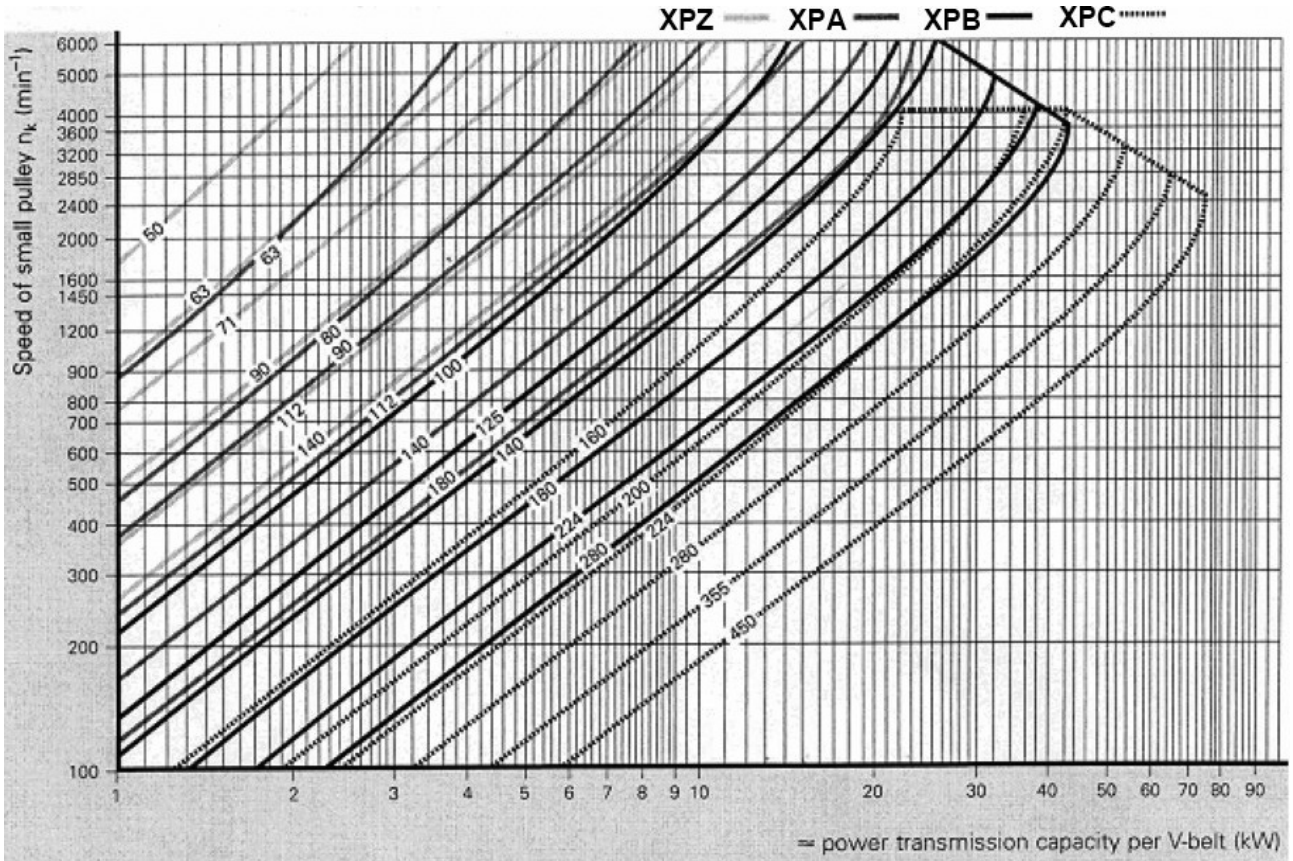
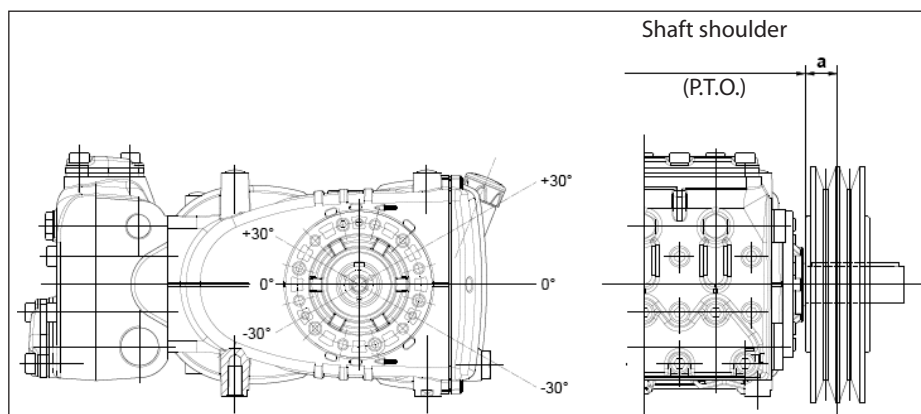

Fig. 7
Fig. 10
For this pump model, we recommend use of 2 XPB belts (16.5x13 serrated). Use an XPC profile only for long durations. Both the characteristics and transmissible power of each belt can be verified in the diagram in Fig. 7, in relation to the number of rpm normally declared by the manufacturer. Minimum duct pulley diameter (on pump shaft):  $\geq 160$  mm. The radial load on the shaft must not exceed 3000 N (value necessary for Layout definition). The transmission is considered adequate if the load is applied to a maximum distance  $a=30$  mm from the shaft shoulder (P.T.O) as shown in Fig. 10.
- b) Use high performance belts – for example **XPB** instead of **SPB** – as a lower quantity of belts for the same transmitted power may be necessary and a consequent shorter resulting distance compared to the shaft shoulder (P.T.O) "a" of Fig. 10.